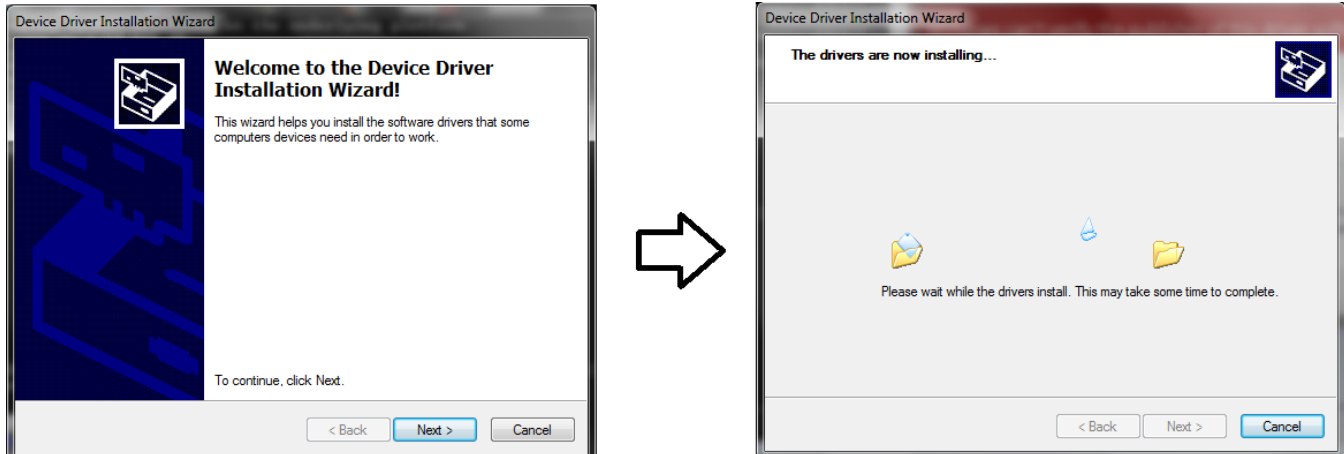
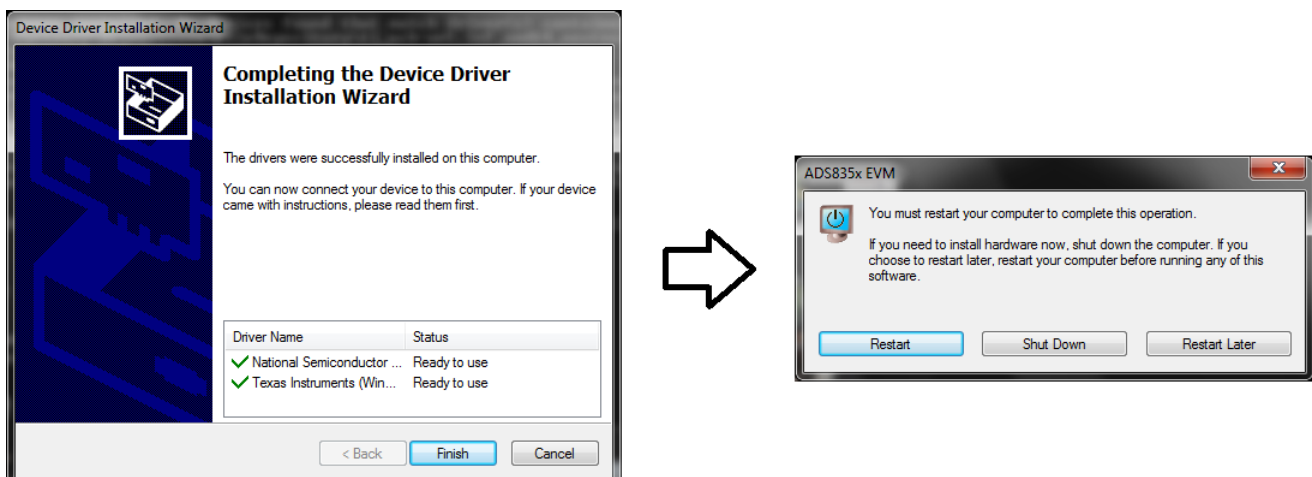

Figure 12. SDCC Device Driver Installation
Figure 13. SDCC Device Driver Completion
- Step 1. Immediately after the ADS7851 EVM software installation is complete, prompts appear to install the SDCC device driver, as shown in Figure 12 and Figure 13